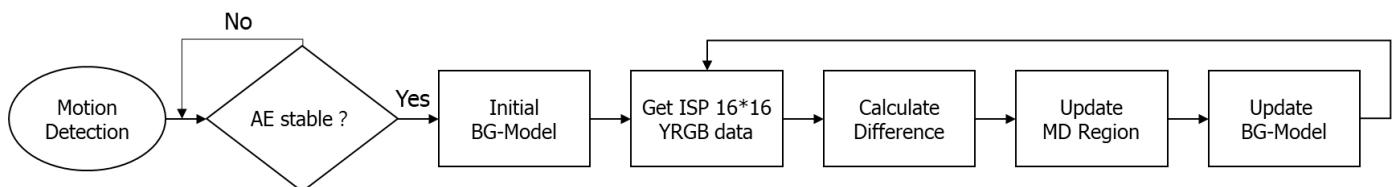

Figure 15-7 Motion detection architecture
Motion detection architecture is shown in Figure 15-7. First, it will confirm whether the value of the automatic exposure (AE) is stable. After stabilization, get 16x16 YRGB value to initialize the background model. The 16x16 YRGB value is calculated by averaging the RGB image generated by from video channel 4. After initialization, calculate the difference between the YRGB values and the background model and the average difference of the entire image. Use the difference information to determine whether to trigger motion detection and update the background model immediately.